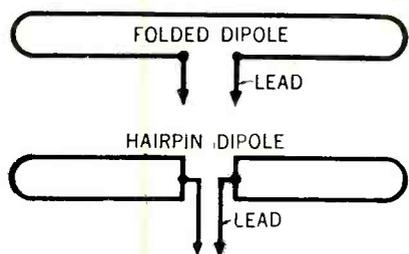

Fig. 2—Difference between folded and "hairpin" or "fat" dipole.
In order to synchronize the receiver's reference oscillator, the station sends a short *burst* of the 3.58 mc unmodulated signal. The burst consists of about 8 cycles which appear on the back porch of the horizontal blanking pedestal. (See Fig. 2). A parallel can now be drawn between the synchronizing of the 3.58 mc reference oscillator and the synchronizing of the horizontal oscillator with which we are all familiar. Just as in the case of the horizontal oscillator,
- a) Five dipoles are "hairpin" or "fat" dipoles, (*Fig. 2*).